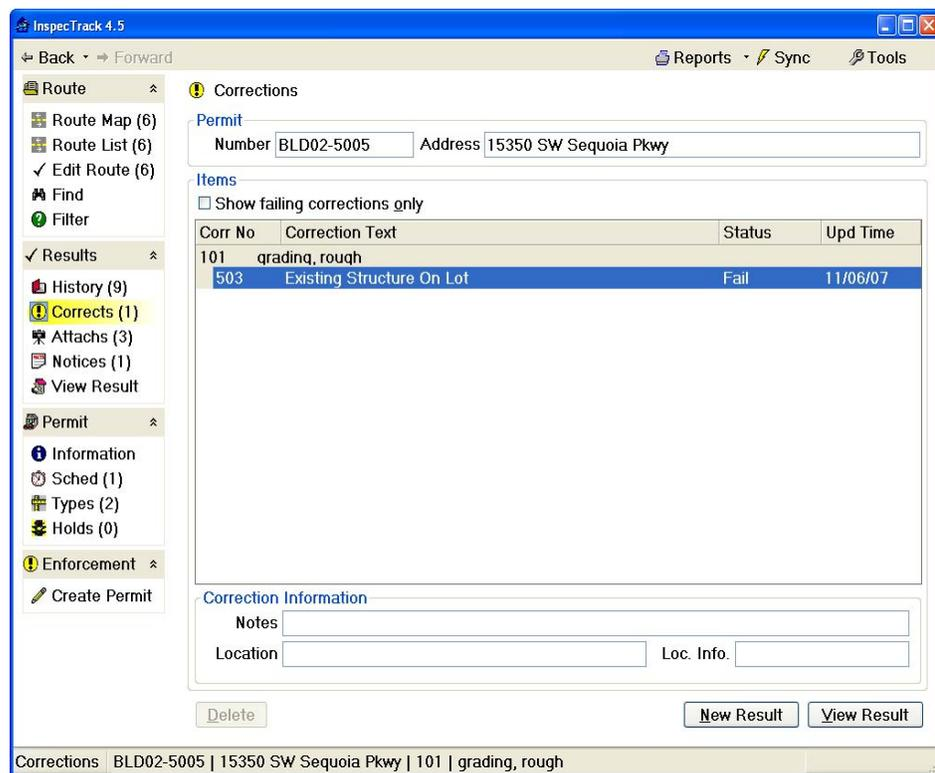

Figure 5-9 Corrections view with corrections displayed
1. Select a permit from the Route List view and click the **Corrects** task item. The Correction view is displayed, as shown in Figure 5-9.
The Corrections view is displayed (Figure 5-9 on page 49).